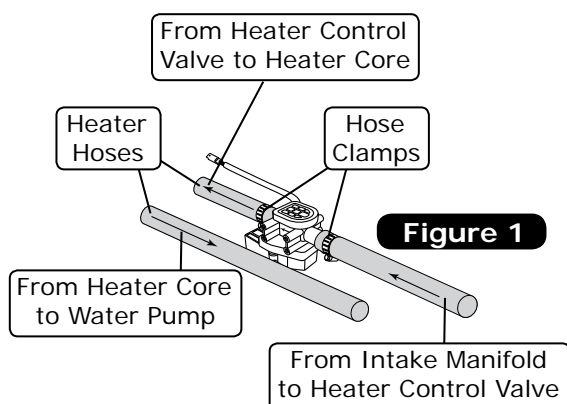

Figure 1
2. Route a piece of heater hose (not provided) from the intake manifold to the heater control valve. Connect the heater hose from the upper heater core fitting to the heater control valve. Secure using hose clamps (See Photos 2 and 3, below). **NOTE: Ensure proper flow direction through the heater control valve - the flow direction follows the molded arrow on the valve (See Figure 1, below).**